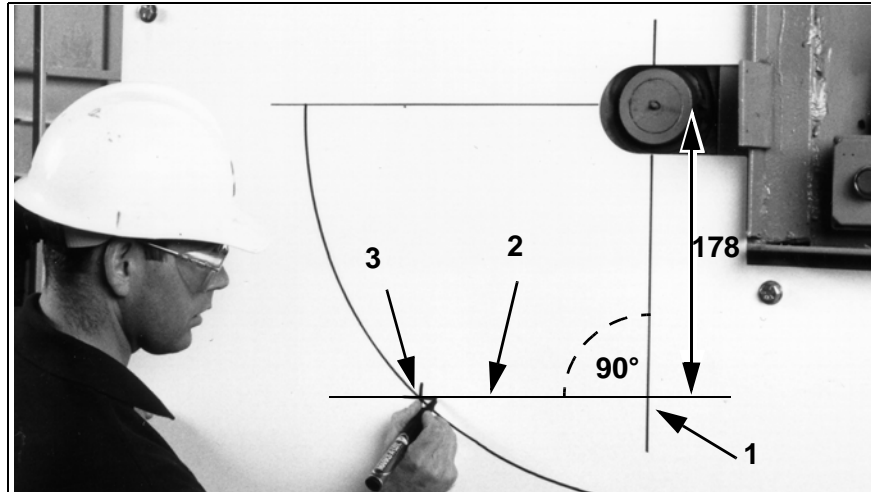

Fig. 2
5. Mark a point on the perpendicular which is at least 178 mm from the centre (1, Fig. 2).
6. Draw a line vertical to the perpendicular at this point (2, Fig. 2).
7. The point of intersection (3, Fig. 2) with the arc of the circle is the installation position of the pre-cleaner.